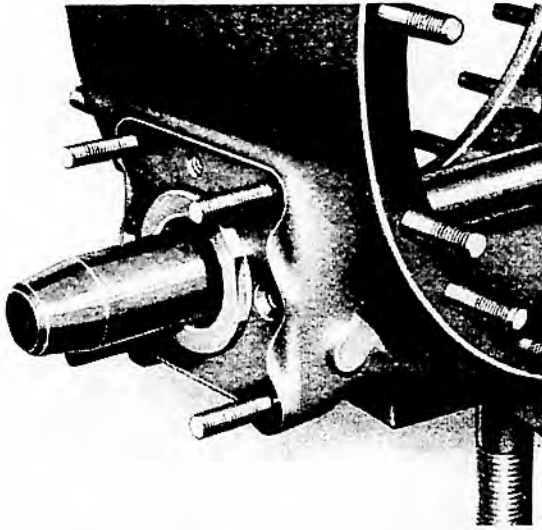

FIGURE 10.
TO FIT P.T.O. SHAFT INTO CENTRE HOUSING (Figure 10 refers)
3. Mount oil seal retainer, with flats to sides, and tap into position in housing as shown in Fig. 10.